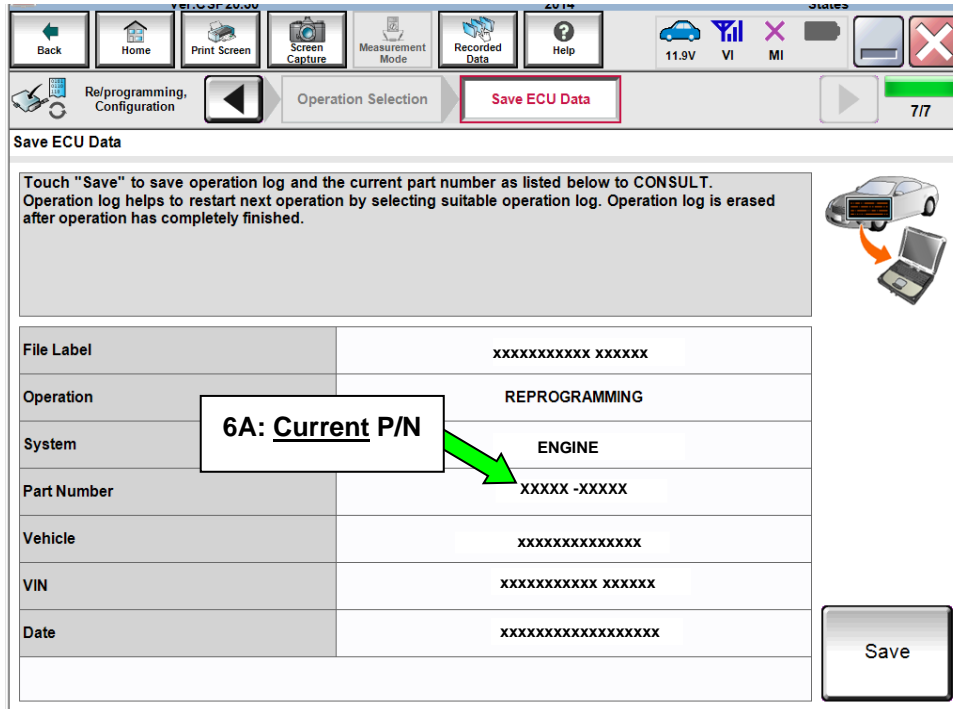

Figure 2
5. Follow the on-screen instructions and navigate C-III plus to the screen shown in Figure 2 on the next page.
6. When you get to the screen shown in Figure 2, confirm ECM reprogramming applies as follows.